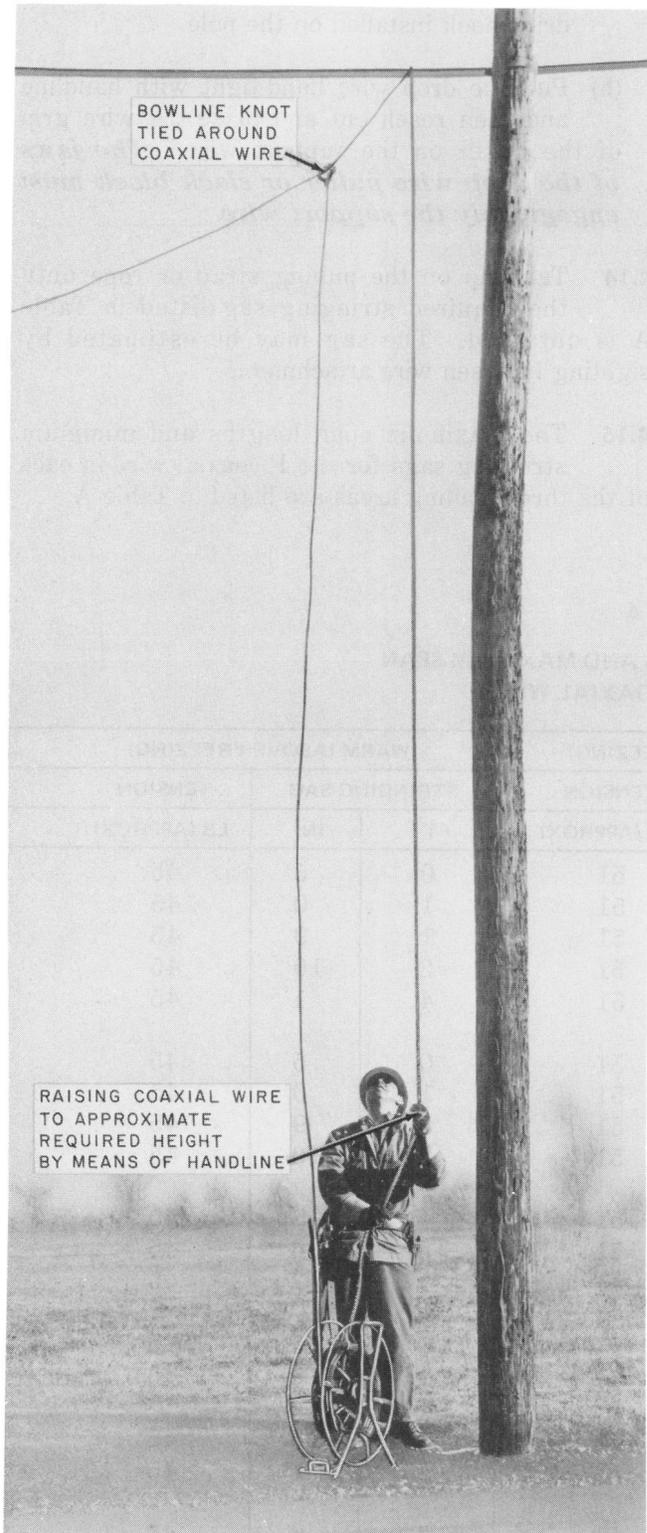
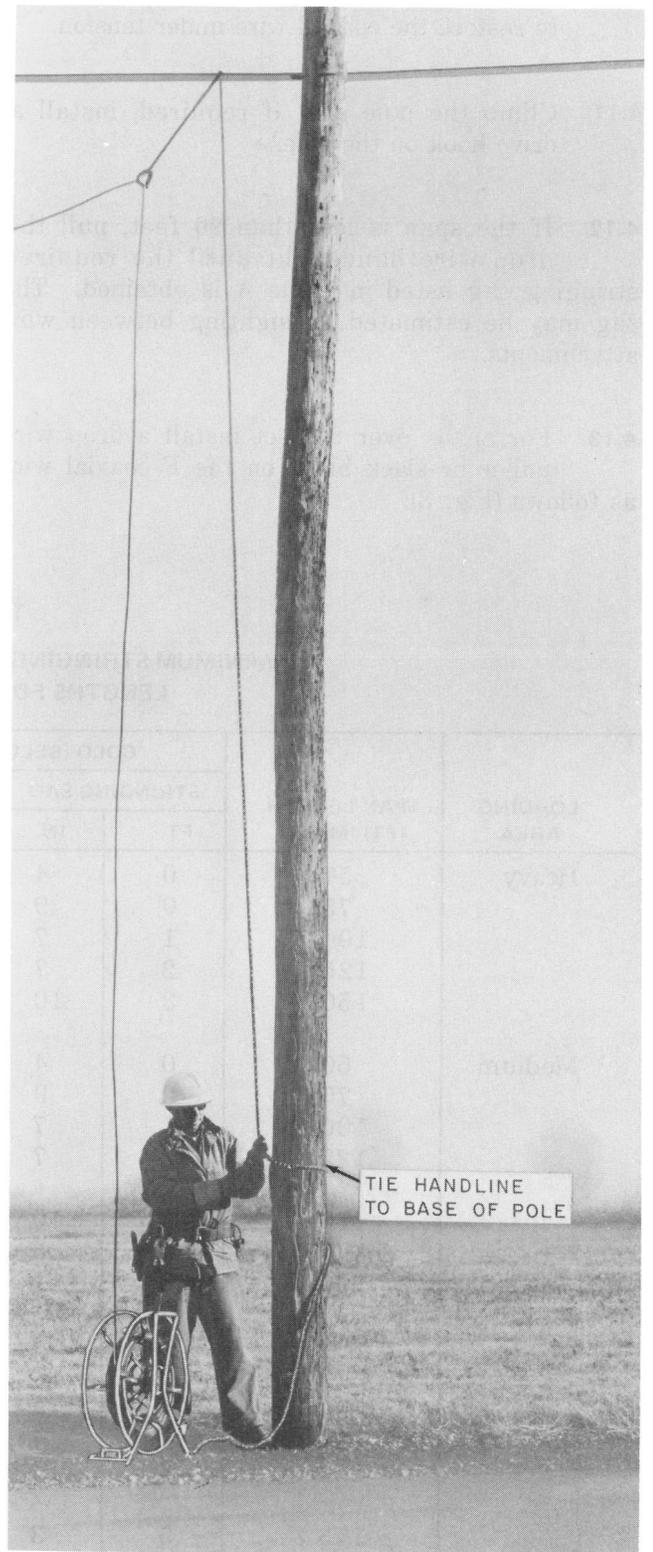

Fig. 6—Raising Coaxial Wire
Fig. 7—Coaxial Wire Raised to Required Height
4.08 Release the handline from the base of the pole, tie a bowline knot around the coaxial wire, and raise as shown in Fig. 6. When the loop in the handline has reached the required height, secure the handline to the base of the pole (Fig. 7).